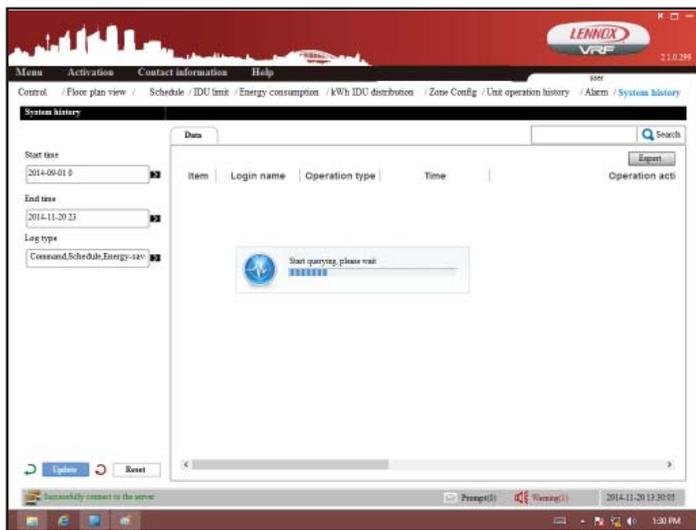

Figure 69. Report Generation Progress Bar
12. Report generation could take several minutes. A status bar will display. See figure 69.